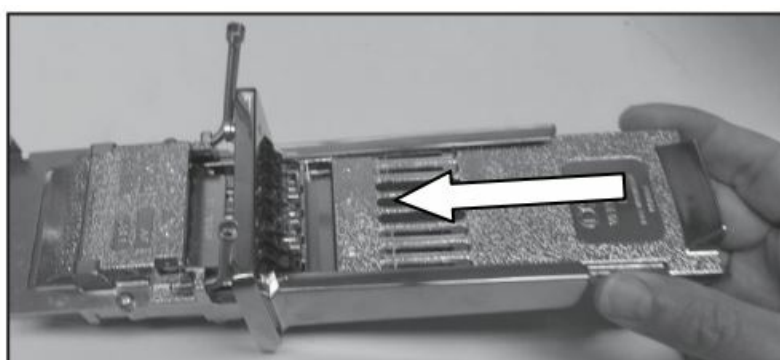

FIGURE 11
11. Turn the slide tray over and insert it into the coinslide body. See Figure 11.